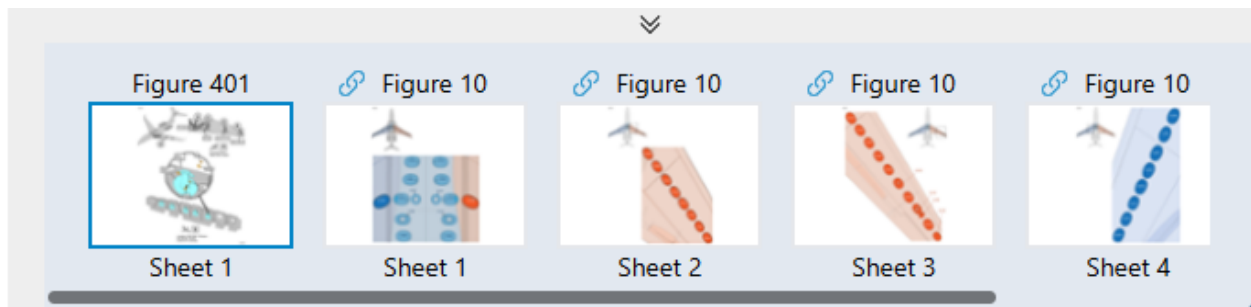

Figure 13 - Image Carousel with native and linked images.
1. All images associated with the open document are displayed as thumbnails in the carousel located at the bottom of the graphics panel. Refer to Figure 13.